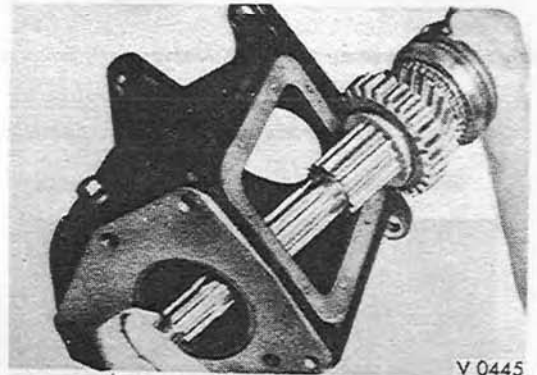

Fig. 3-21. Removing the spline shaft with attached parts through the transmission case cover hole.
13. Remove the spline shaft with the clutch group of parts through the transmission case cover hole. (Fig. 3-21)